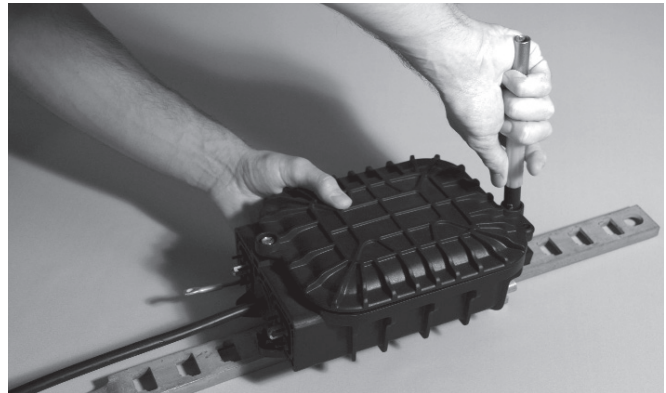

Figure 4
1. Alternately unscrew each of the two lid screws by two rotations each until both screws are free and the seal has come free of the base. (Figure 4)